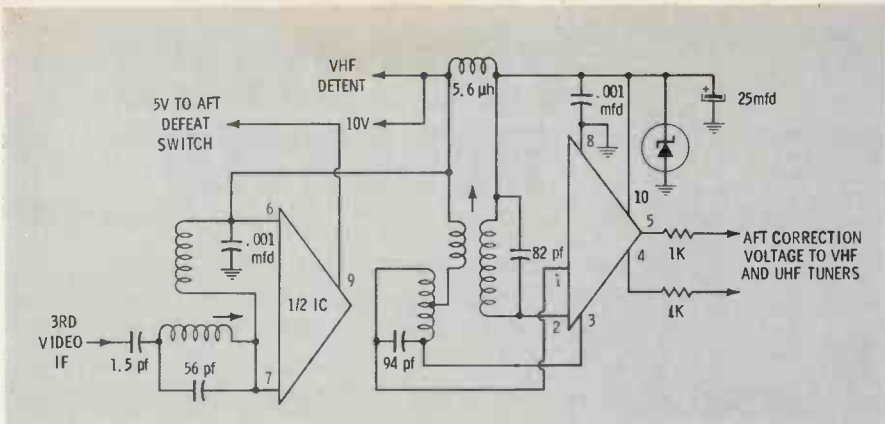

Fig. 26. Integrated circuit is used in RCA's new automatic fine tuning (AFT) system.
RCA has introduced a new integrated circuit (IC) automatic fine tuning (AFT) system in their top-of-the-line CTC30 color chassis. The new circuit, shown in Fig. 26, employs a single IC that performs